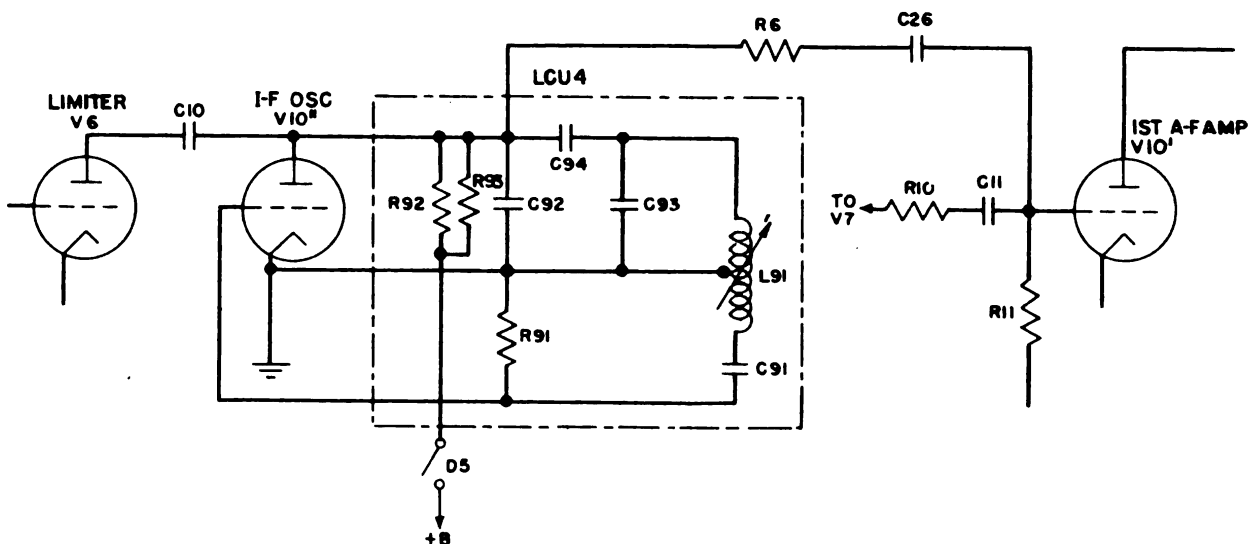

Fig. 31. Radio Receiver BC-683-A: Functional Diagram of I-f Oscillator
j. I-f Oscillator. A functional diagram of the intermediate-frequency oscillator is shown in Fig. 31.